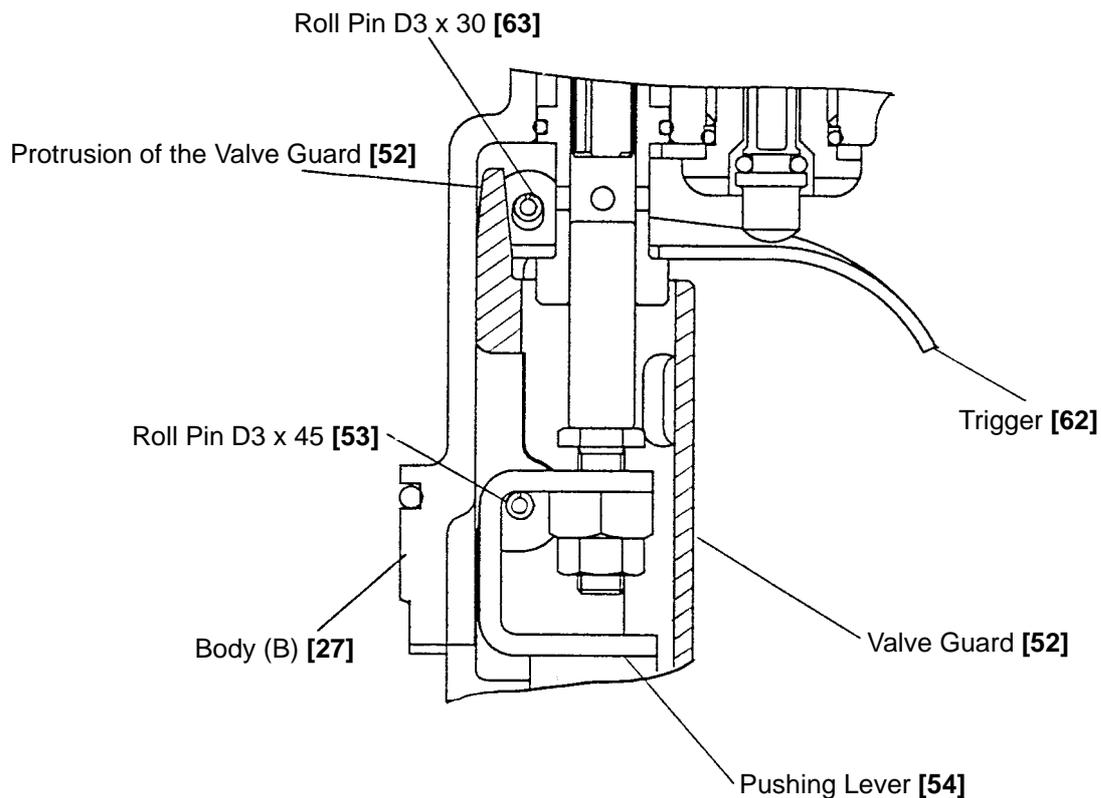

Fig. 18
- Safety Plunger (B) [61] is apt to come off during disassembly. Be sure to check that Safety Plunger (B) [61] is securely mounted during reassembly.
- Insert the protrusion of the Valve Guard [52] between the Roll Pin D3 x 30 [63] and Body (B) [27]. (See Fig. 18.)
- Insert the Roll Pin D3 x 45 [53] in the hole of the Valve Guard [52] and the hole of Body (B) [27].